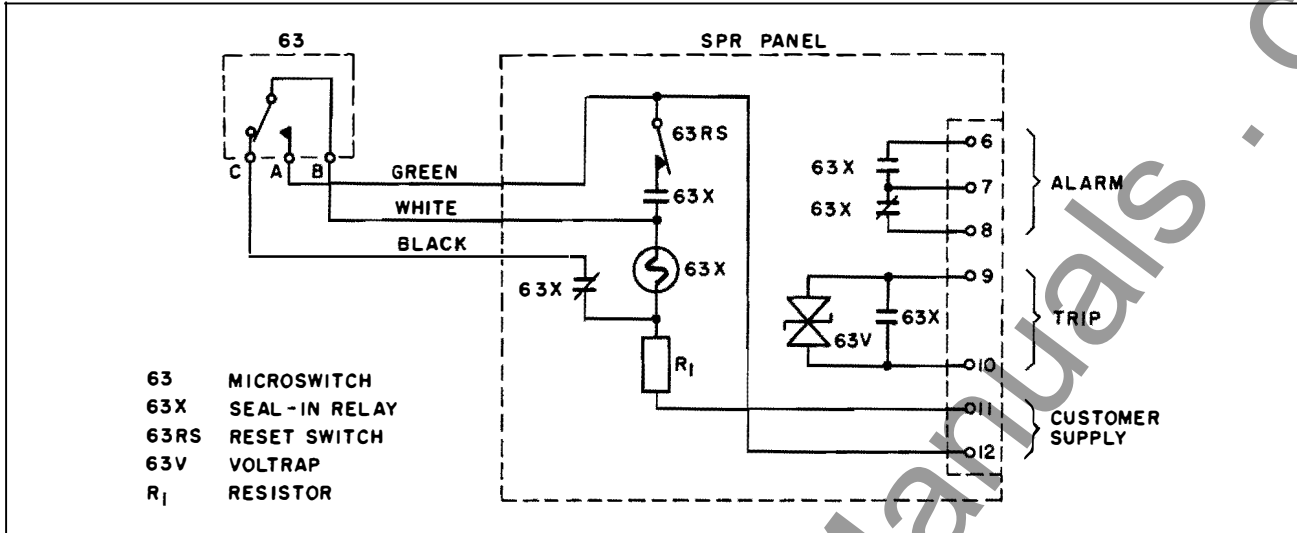

Fig. 2 Sudden Pressure Relay Schematic Wiring Diagram
3. Connect a circuit tester across terminals 1 and 2 on terminal strip. (B and C on Fig. 2)
6. Using the recovery time recorded in (5) and the pressure recorded in (2) as coordinates on
Another possibility is that the Relay operation was caused by extraneous electrical or mechanical disturbances. These might be caused by an electrical storm, or might even be side effects of constantly changing transformer, station, and system practices. Whenever a cause of a false operation has been identified, changes have been made in the design or application of the Relay to prevent a recurrence from that cause. One example is the new Panel circuit in Figure 2. It offers protection against electrical flashover in the Relay circuit, the result of field experience which has shown that severe voltage surges do appear in alarm circuits.